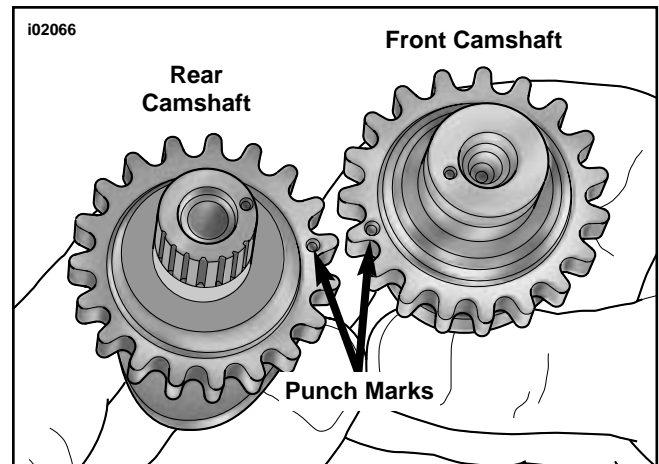

Figure 6. Align Punch Marks on Teeth of Camshaft Sprockets.
7. Align punch marks on teeth of secondary cam sprockets (outboard faces). See Figure 6. Using a colored marker, carefully mark the punch mark locations on the inboard side of the sprocket teeth. These marks are needed to observe proper orientation of the camshafts when they are pressed into the bearings.